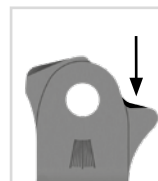

fig. 22
- 1 Grind the system stirrup slightly in the nose area (fig. 22).